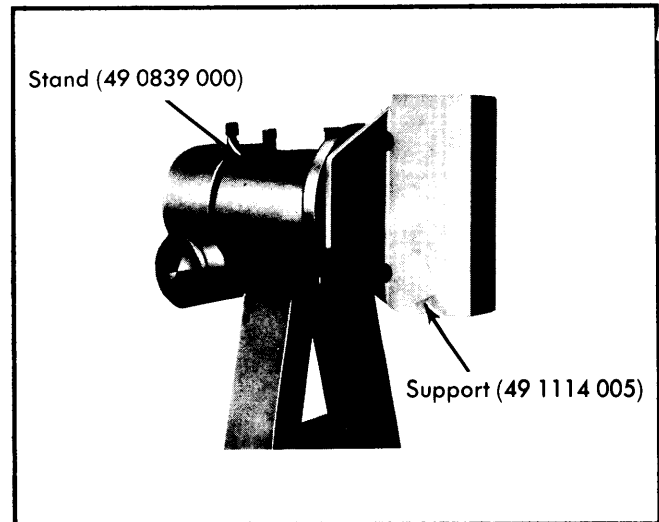

Fig. 2 Engine Stand & Hanger Support
**NOTE** — To simplify engine disassembly, manufacturer recommends use of a special engine stand (49 0839 000 or 49 0107 680A) and special hanger (49 1114 005) for supporting the front housing. See Fig. 2 Also note that this front housing support may be used on previous engines (where rear housing support units were previously used).